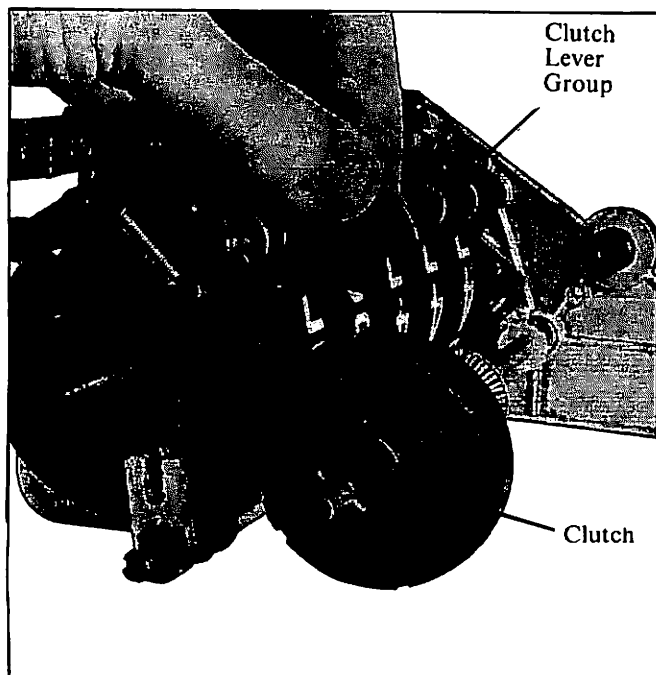

Figure 9. Clutch Group Removal
- b. Move clutch lever group so clutch is free. See Figure 9. Remove clutch shaft group. See Paragraph C, 1 for parts replacement.